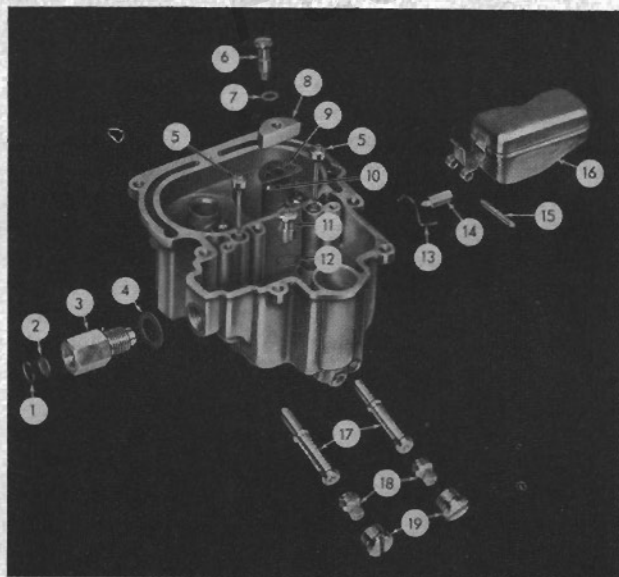
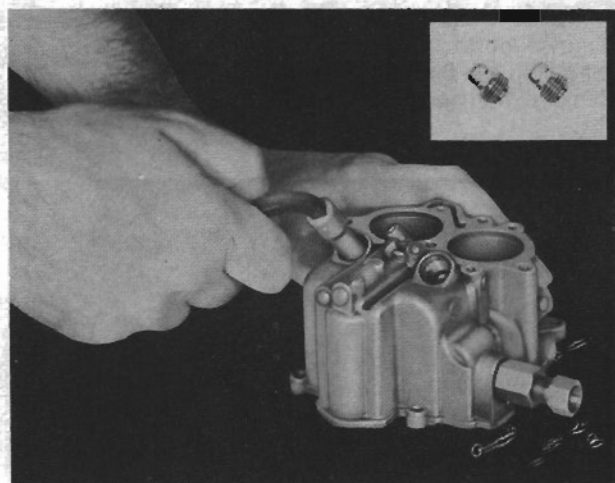
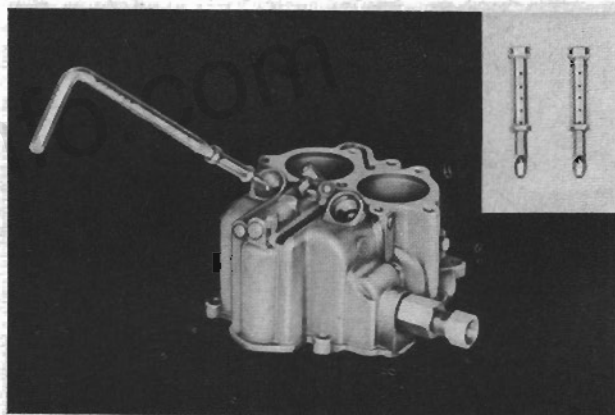
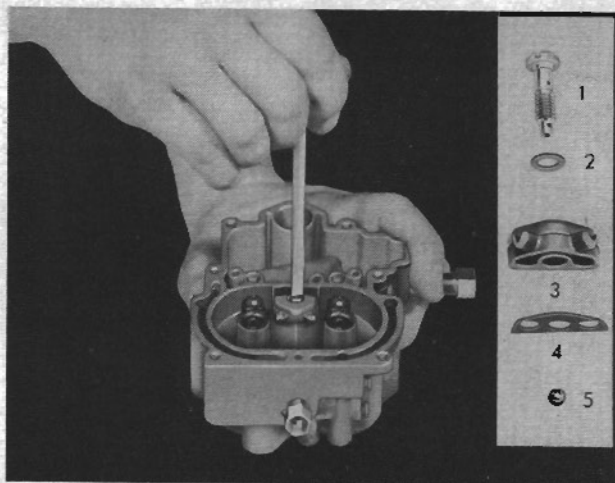

FIG. 58
FIG. 59
FIG. 60
FIG. 61
Remove the main metering jet plugs and gasket (19, Fig. 58). Then, using Tool No. J-1561, remove the main metering jets (see Fig. 59). With Tool No. KMO-269-S-4, remove the main discharge jets (see Fig. 60). Remove the pump discharge nozzle screw (1, Fig. 61) and gasket (2). Remove the discharge nozzle (3) and gasket (4). Place the hand on top of the main body, invert the body, and catch the pump outlet check ball (5).